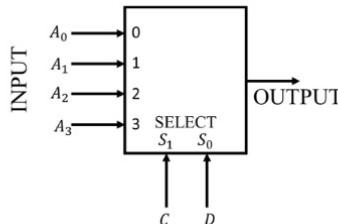

Fig. 4.32: MUX
58. Consider the 2-bit multiplexer (MUX) shown in Fig. 4.32. For OUTPUT to be the XOR of C and D, the values for  $A_0, A_1, A_2$  and  $A_3$  are \_\_\_\_\_. (GATE EC 2022)